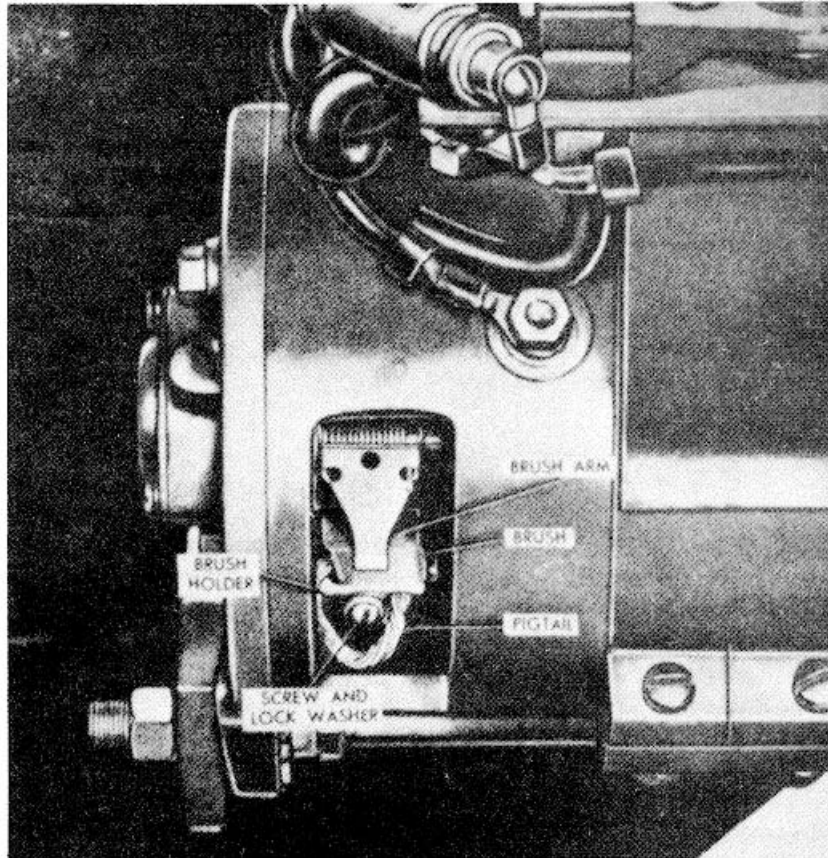

Figure 33. Generator brushes exposed.
b. *Generator Brushes* (fig. 33).
- (1) *Removal.* Remove the cover band from around the commutator end of the generator frame, exposing the brushes (fig. 33). Remove the screw and lockwasher that attach the brush lead to the brush holder. Swing the brush arm up out of the way and remove the brush from the holder.
- (2) *Installation.* Lift the brush arm (fig. 33) and install the brush in the brush holder. Then release the brush arm so that it bears against the end of the brush. Fasten the brush pigtail lead to the brush holder with the screw